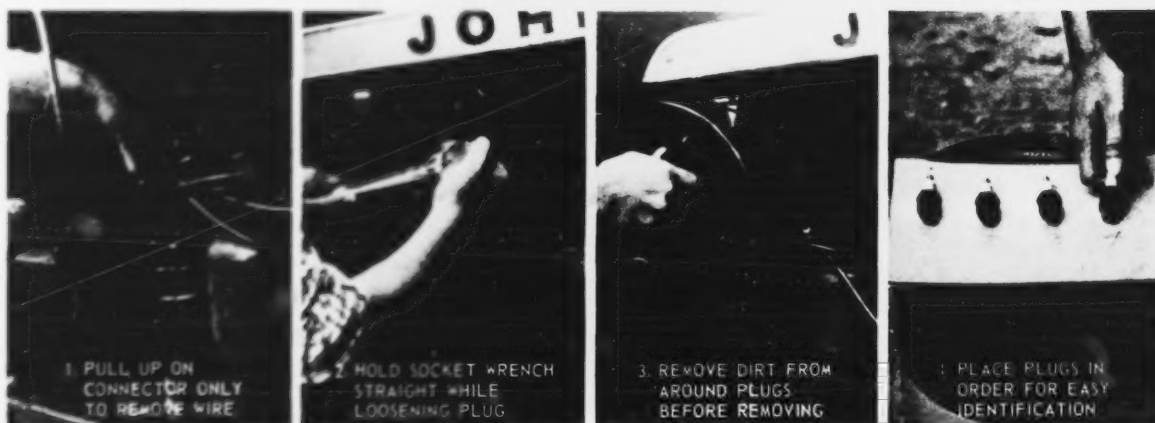

Fig. 37—Removing spark plugs
1. Pull the wire from the plug by grasping the terminal, *not* by pulling on the wire (Fig. 37 left).
2. Use a deep-well socket (Fig. 37) to loosen the spark plug. (A special spark plug socket with rubber insert is even better.) Hold the socket straight to prevent breaking the insulator.
3. After loosening the plug but before removing it, always clean the area around the spark plug by blowing, wiping, or brushing (Fig. 37). (Be sure to protect your eyes.) This will prevent dirt from falling into the cylinder after removal.
4. Remove the plugs and place them in order to match the cylinder each came from (Fig. 37, right). The condition of the spark plug can tell you a lot about the operation of a particular cylinder. Also remove the plug gaskets (if used).